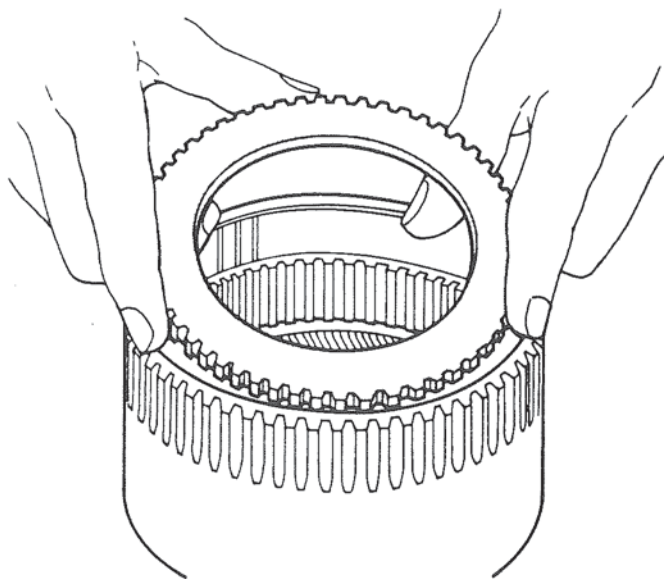

Figure 48. Installing Clutch Pressure Plate.
1. Place the ring gear on a clean surface with the external teeth up. Figure 48.
3. With the smoothly ground surface in the upward position, install the clutch pressure plate (rear) into the ring gear. Figure 48. Assembly is complete when the clutch pressure plate is firmly and squarely seated on the shoulder at the bottom of the internal splines.